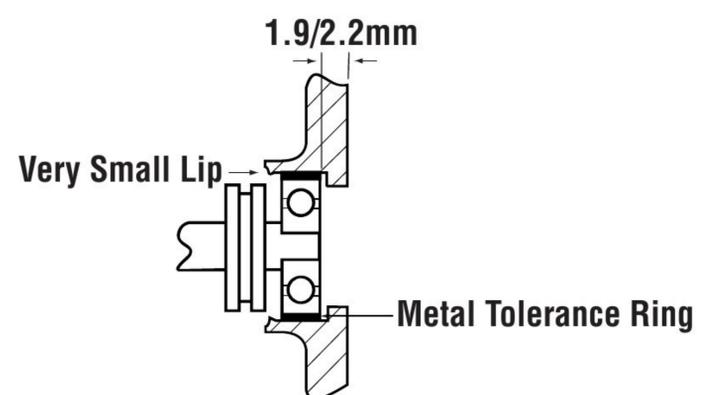

Figure 8. Early Delco alternators use metal tolerance rings as a brake. These tolerance rings and early-style plastic tolerance rings both must be recessed.
These metal tolerance rings, as well as first-style plastic tolerance rings, both require a very important last step during the assembly of the alternator. The S.R.E. bearing must be recessed 1.9 to 2.2 mm away from the lip that is either on the S.R.E. frame or on the tolerance ring itself (Figure 8). Many tool companies have a tool that makes this procedure very easy. Without this clearance, as the rotor expands it will push the inner races against the balls, which will then push tightly into the bearing separator and against the outer race. This will cause the bearings to over-heat and be destroyed (Figure 9).
Step 1: Using a tapered reamer, round file or other suitable tool, remove the thin lip on the outside of the bearing bore. There is also a very very small lip on the inside of the bearing bore that must be removed (Figures 8 & 10). This inside lip was created by Delco to prevent the metal tolerance ring from walking inward and grounding the slip ring.